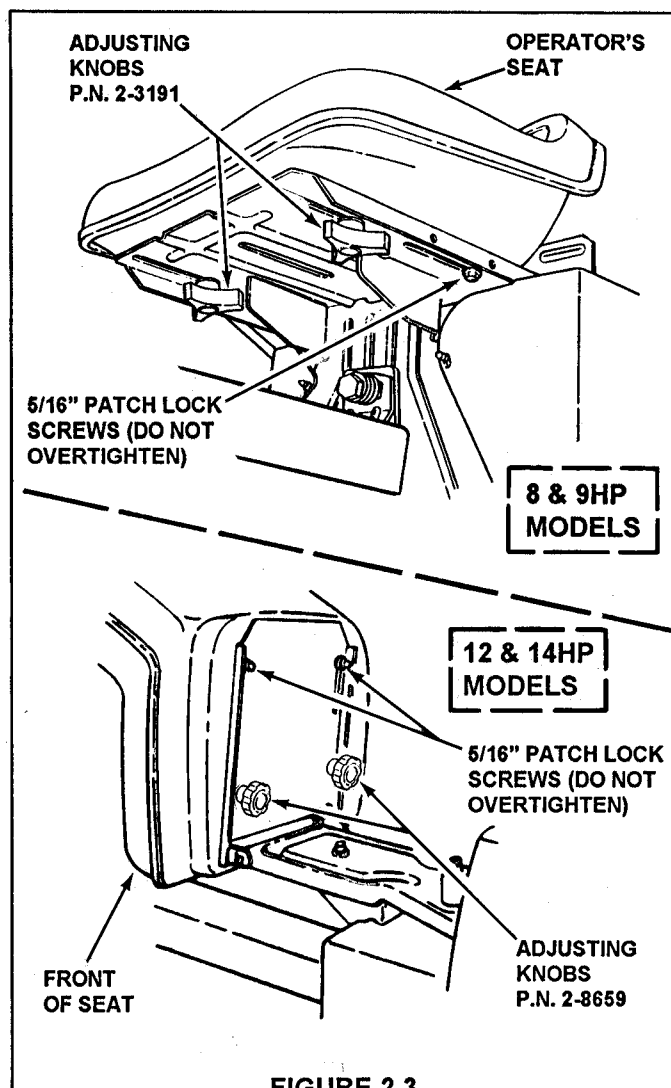

FIGURE 2.3
- 2.1.4. Adjust seat as needed to most comfortable position. See Figure 2.3.
1. With the engine stopped, loosen the two adjusting knobs and move seat to desired position. After adjustment, tighten knobs securely. If seat does not move after loosening knobs, it may be necessary to loosen the 5/16" patch lock screws located at the rear of the seat. On 12 and 14HP models, the operator's seat has a tilt-up design. The adjusting knobs are of different design so as not to interfere with seat mounting plate when returned to sitting position. See Figure 2.3.